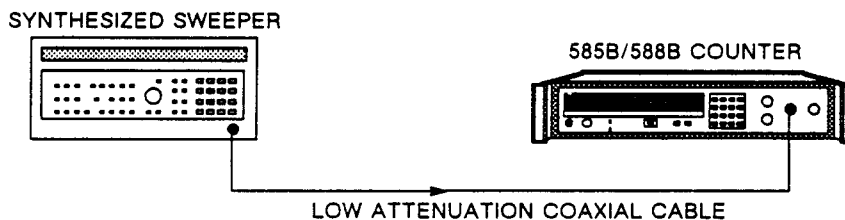

Figure 8-14. Band 2 Frequency Limits Test Setup.
1. Connect equipment as shown in Figure 8-14 and turn equipment on.